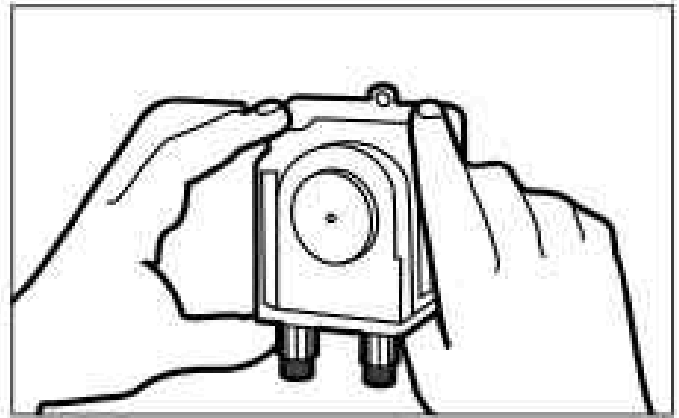

Figure 21. Align the Cover
2. Align tube housing cover with track and slide over tube until fully closed. See Figure 21.